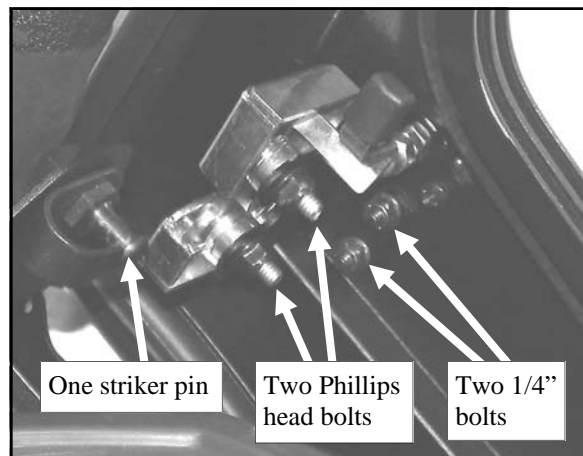

Fig. 11.4 (View of inner right side)
11.4 After the door is aligned parallel to the roof edge, a latch adjustment can be made. See fig. 11.4. The door latch engagement is adjustable in various directions. Adjust to suit. Note: the striker pin would require 3/4" open-end wrenches. Note: the door latch is a rotary type with two positions to close. Adjust door so that when fully closed door latch clicks **twice** for total engagement. If striker pin is adjusted, make sure the finger guard ends up being centered and facing inward.